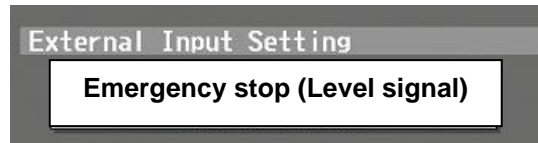

Figure 4. Initial Settings on an AG-150 touch screen
2. If an AG-150 is installed, go to the “Initial Settings” of the touch screen and make your selection on the “Network” page as shown in Figure 4.